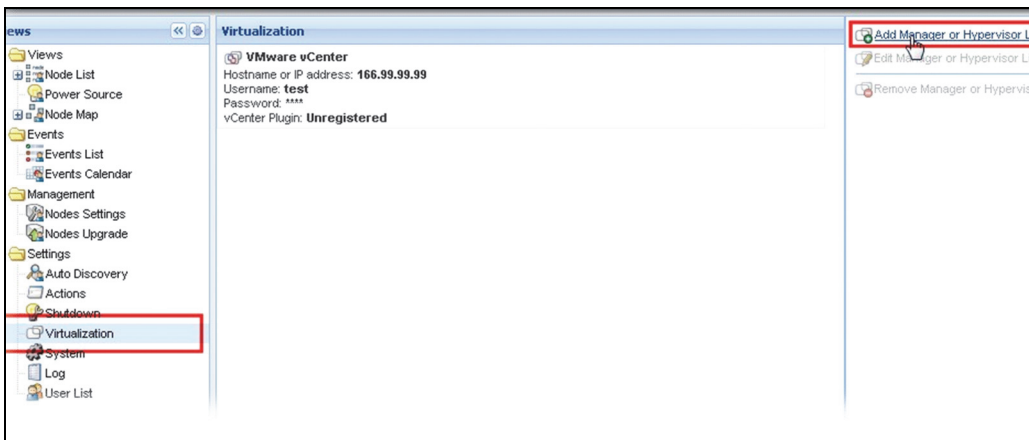

Figure 69. Virtualization module view
- 3 Select Add Manager or Hypervisor List on the right panel (see Figure 69).